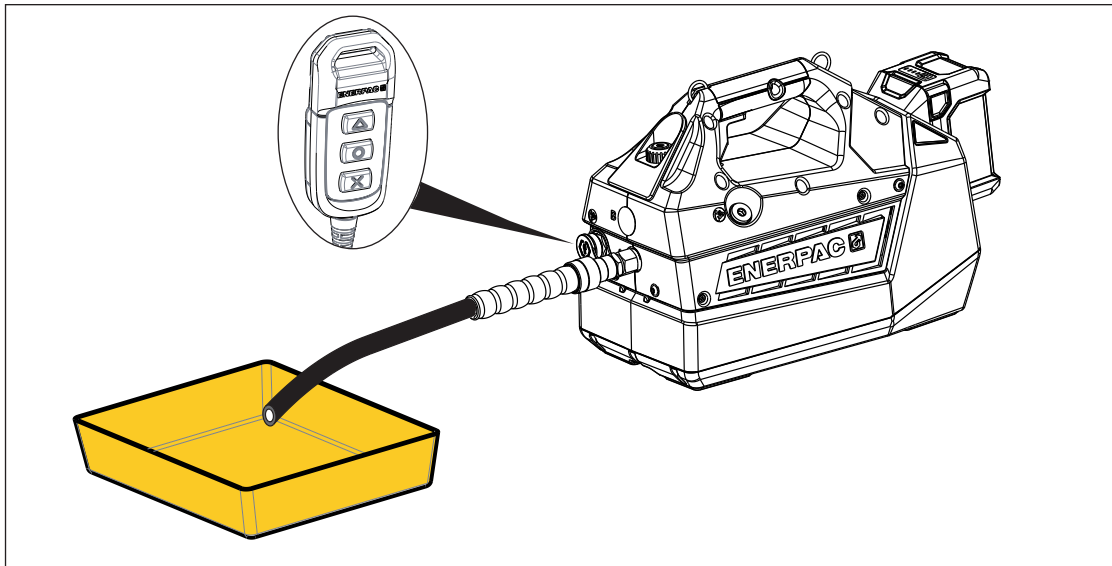

Figure 14: Draining the Hydraulic Reservoir
3. Place the pump on a level work surface. Be sure the pump power switch is in the OFF (O) position.
4. Attach an open-ended hose to the pump "A" port. Place the open end of the hose in a suitable pan or container that is large enough to collect all the used oil. See Figure 14.
6. Turn on the pump power switch (I).
7. Press and hold the JOG button  to start the motor and begin draining the reservoir. Continue running the motor until oil stops flowing from the open-ended hose. Then, release the JOG button  to stop the motor. See Figure 14.